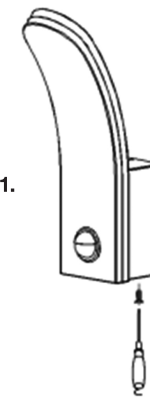

Figure 1.
- Screw off the nail on the bottom of sensor lamp and unload the bottom (refer to figure 1.).